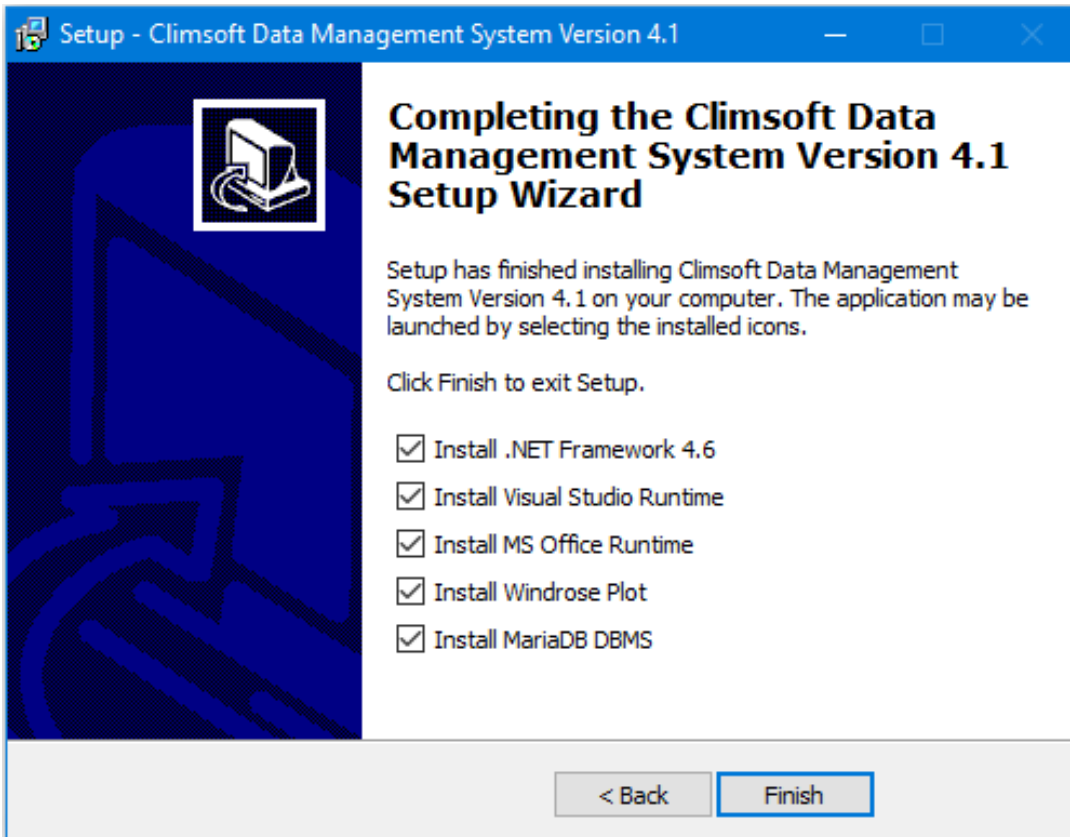

Figure 1(a): Installation of additional applications
3. When the core Climsoft setup has been completed, a dialog with options for installing additional applications required by Climsoft will appear as shown in Figure1(a) below: